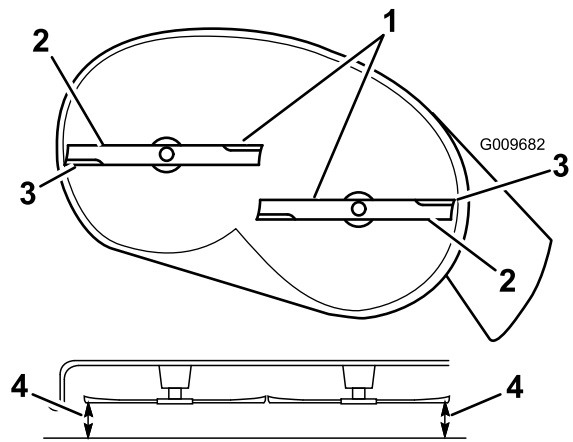

Figure 52
4. Carefully rotate the blade(s) so that they are all side to side (Figure 52).
5. Measure between the outside cutting edges and the flat surface (Figure 52). If both measurements are not within 5 mm (3/16 inch), an adjustment is required; continue with this procedure.